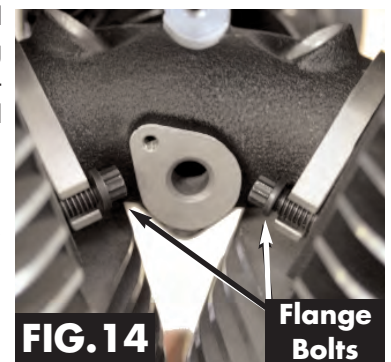

FIG. 14
N. Starting at the manifold end of throttle body, place one each of flange H-D No.27059-05A (supplied) with the inside bevel facing away from manifold over the left and right ports. Next with a small amount of dish soap spread over the I.D. and O.D. of seal H-D No.27035-05. (Supplied) With the bevel of new seal facing the installed flange, install seal up to the bevel of installed flange, repeat the above for other port. **See Fig 14.**
P. Position the throttle body on head and rotate flanges H-D No.27059-05A; so the forked screw holes are at about four o'clock positions. Place both forked ends of flanges over the two installed screws. Only finger tighten these screws at this time. Next install the two other screws finger tight at this time. **See Fig 14.**